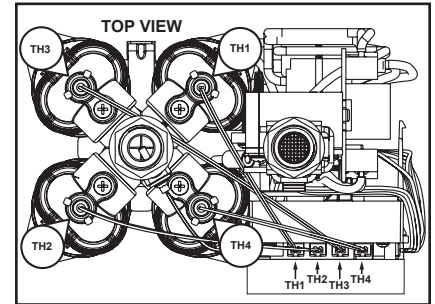

Figure 26 - Proper chamber thermistors installation.
**NOTICE:** If replacing multiple chamber thermistors, use masking tape to label the chamber to the corresponding control board terminal. See Figure 26.
**8** Reinstall the control board assembly into place. Reusing the screws previously removed, secure the control board into place. Hand tighten the screws in place, **DO NOT** over tighten. See Figure 26, page 20.